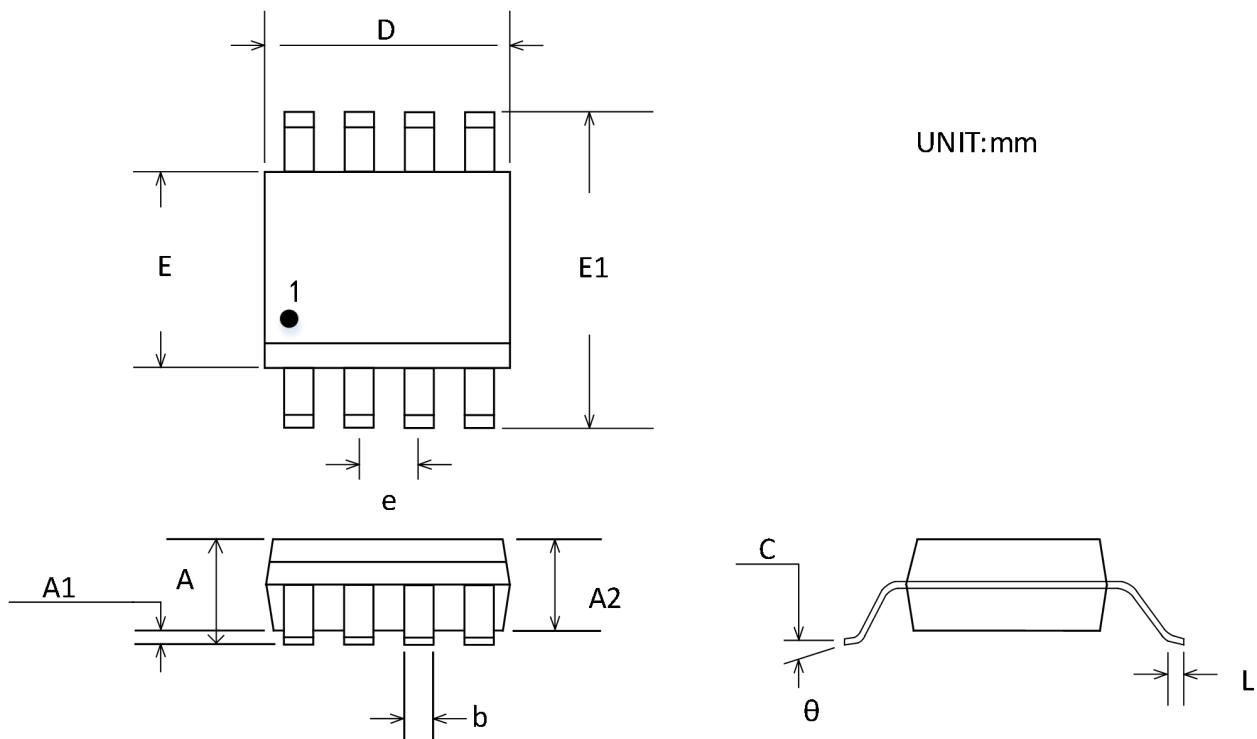

Figure 6 . 8-Lead Outline Package [MSOP-8]
The time and calendar information is obtained by reading the appropriate register bytes. See Figure 6 for the RTC registers. The time and calendar are set or initialized by writing the appropriate register bytes. The contents of the time and calendar registers are in the BCD format. Bit 7 of Register 0 is the clock halt (CH) bit. When this bit is set to 1, the oscillator is disabled. When cleared to 0, the oscillator is enabled. The clock can be halted whenever the timekeeping functions are not required, which minimizes VBAT current (IBATDAT) when VCC is not applied. The day-of-week register increments at midnight. Values that correspond to the day of week are user-defined but must be sequential (i.e., if 1 equals Sunday, then 2 equals Monday, and so on). Illogical time and date entries result in undefined operation. When reading or writing the time and date registers, secondary (user) buffers are used to prevent errors when the internal registers update. When reading the time and date registers, the user buffers are synchronized to the internal registers on any start or stop and when the register pointer rolls over to zero. The countdown chain is reset whenever the seconds register is written. Write transfers occur on the acknowledge from the CD13S38. Once the countdown chain is reset, to avoid rollover issues the remaining time and date registers must be written within 1 second. The 1Hz square-wave output, if enabled, transitions high 500ms after the seconds data transfer, provided the oscillator is already running. The CD13S38 runs in either 12-hour or 24-hour mode. Bit 6 of the hours register is defined as the 12-hour or 24-hour mode-select bit. When high, the 12-hour mode is selected. In the 12-hour mode, bit 5 is the AM/PM bit, with logic high being PM. In the 24-hour mode, bit 5 is the 20-hour bit (20–23 hours). If the 12/24-hour mode select is changed, the hours register must be re-initialized to the new format. On an I2C START, the current time is transferred to a second set of registers. The time information is read from these secondary registers, while the clock continues to run. This eliminates the need to re-read the registers in case of an update of the main registers during a read.